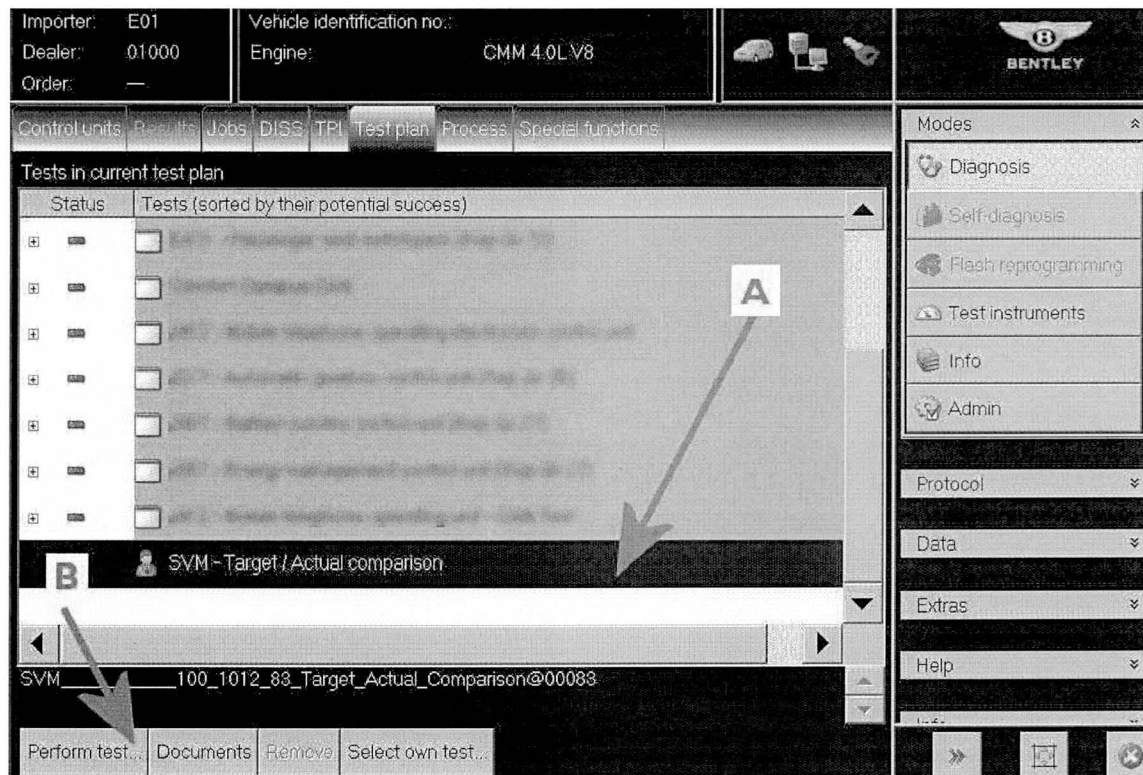

Figure 14
- Referring to Figure 14 (Test plan screen) select and highlight (Point A) SVM – Target/Actual comparison